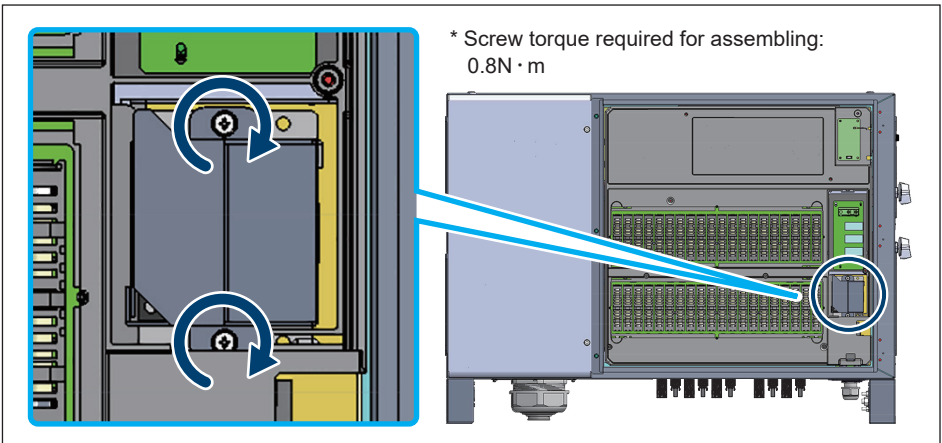
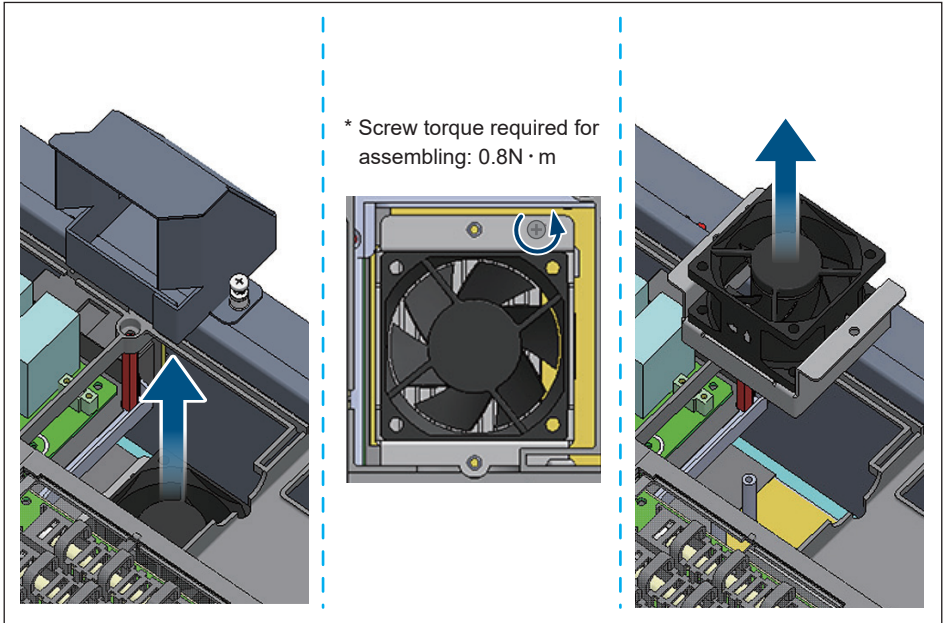

Figure 5-17: Internal fan 1 location
Figure 5-18: Take off the internal fan 1
- (1) Remove the shield cover.
- (2) Loosen two screws shown in **Figure 5-17** and remove the fan cabinet.
- (3) Disconnect the power connector.
- (4) Lift the entire fan assembly from the DC side (right) compartment. (shown in **Figure 5-18**)